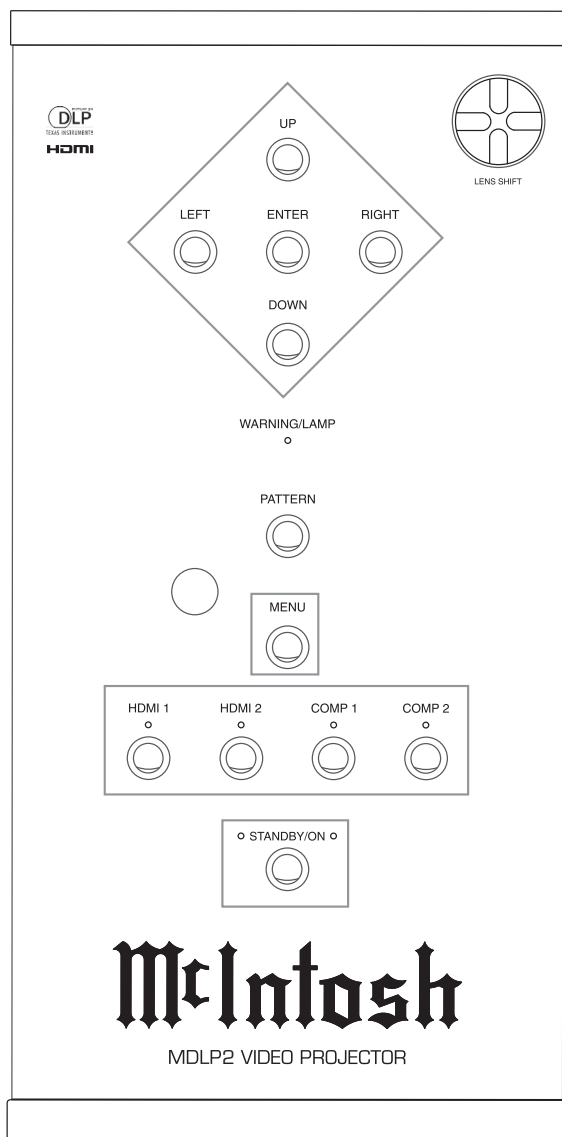

Figure 14
The Red LED to the left of the STANDBY/ON Push-button lights to indicate the MDLP2 is in Standby mode. To Switch ON the MDLP2, press the STANDBY/ON Push-button on the Projector Control Panel or the Projector ON Push-button using the Remote Control. The Green LED to the right of the STANDBY/ON Push-button lights to indicate the MDLP2 is ON. Refer to figures 14 and 15.
The default Source Select for the MDLP2 Projector is the COMPONENT 1 Input. There is an additional Component Video Input (COMP 2) along with two HDMI Inputs. Select the desired source using the push-buttons located on the Projector Control Panel or on the PROJ INPUT Push-buttons located on the Remote Control. Refer to figures 14 and 15.
1. Press the MENU Push-button on either the Projector Control Panel or on the Remote Control. Refer to figures 14 and 15.